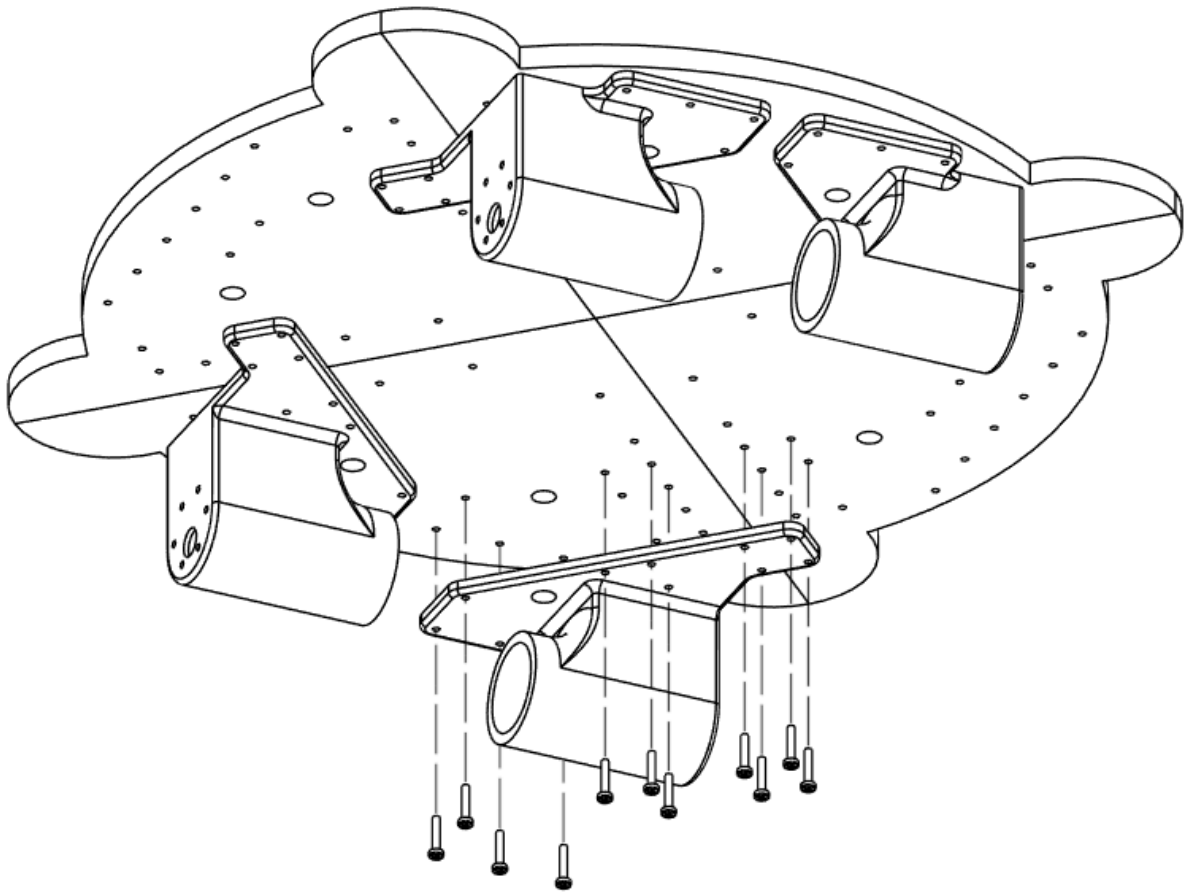
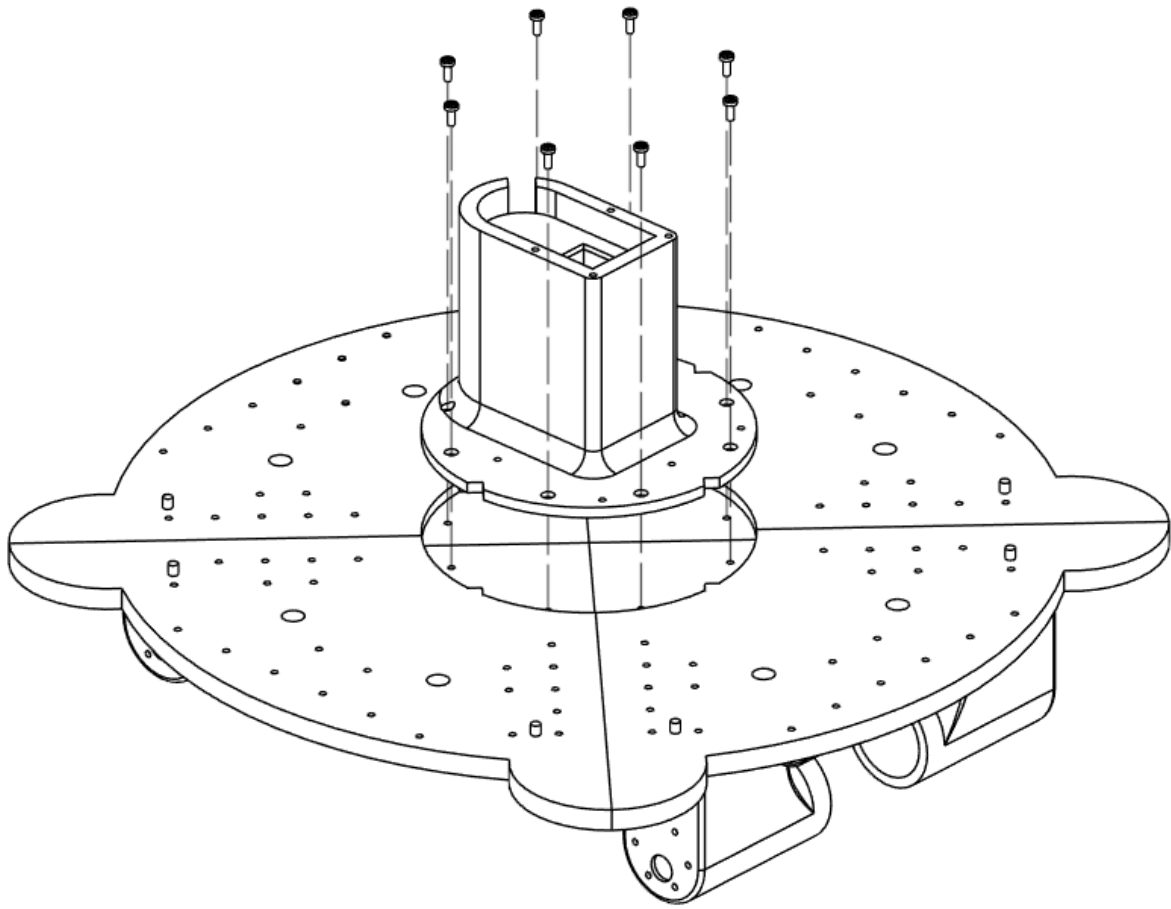
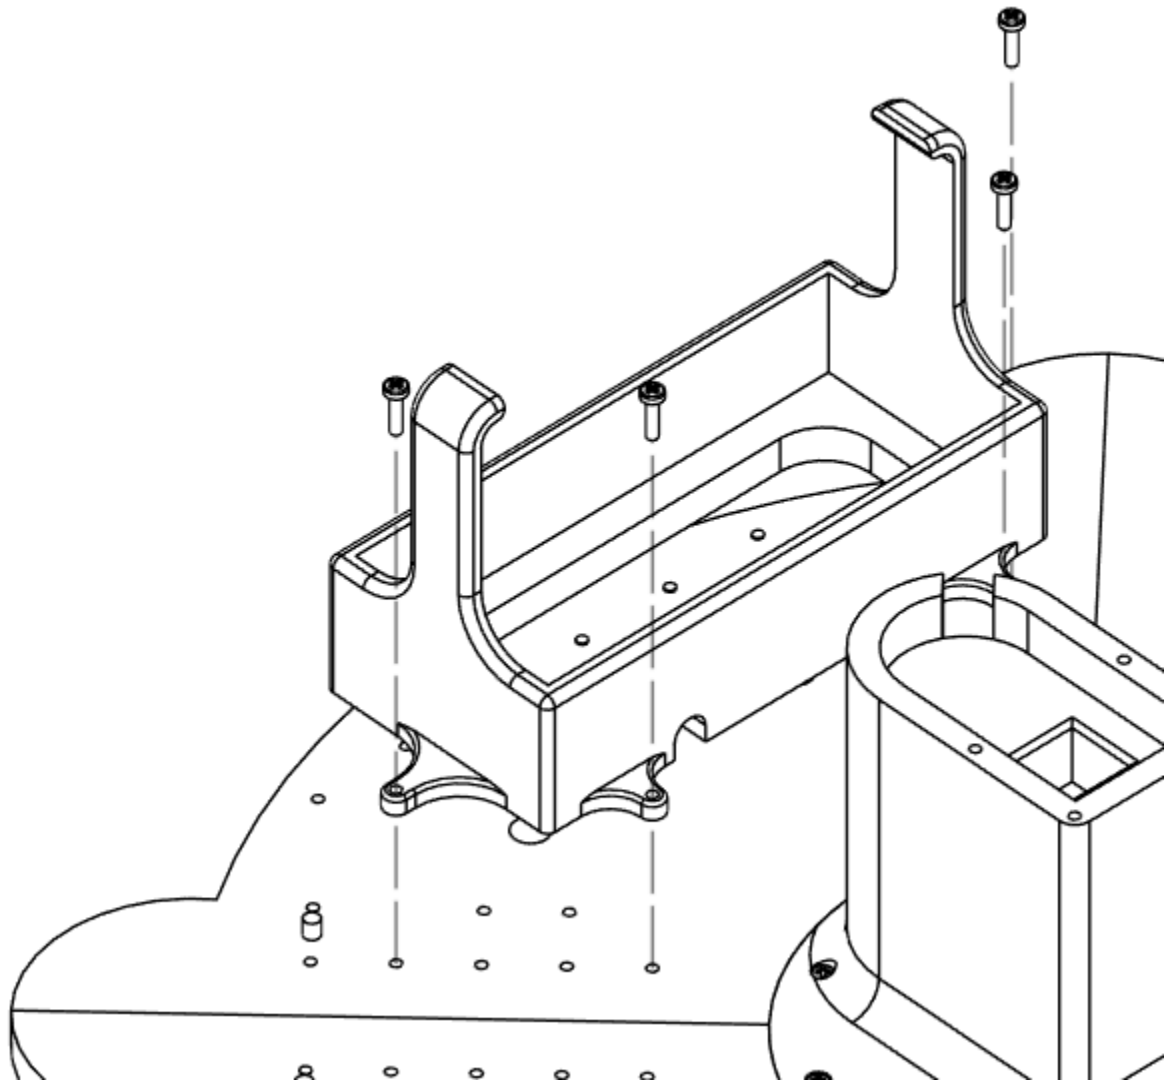
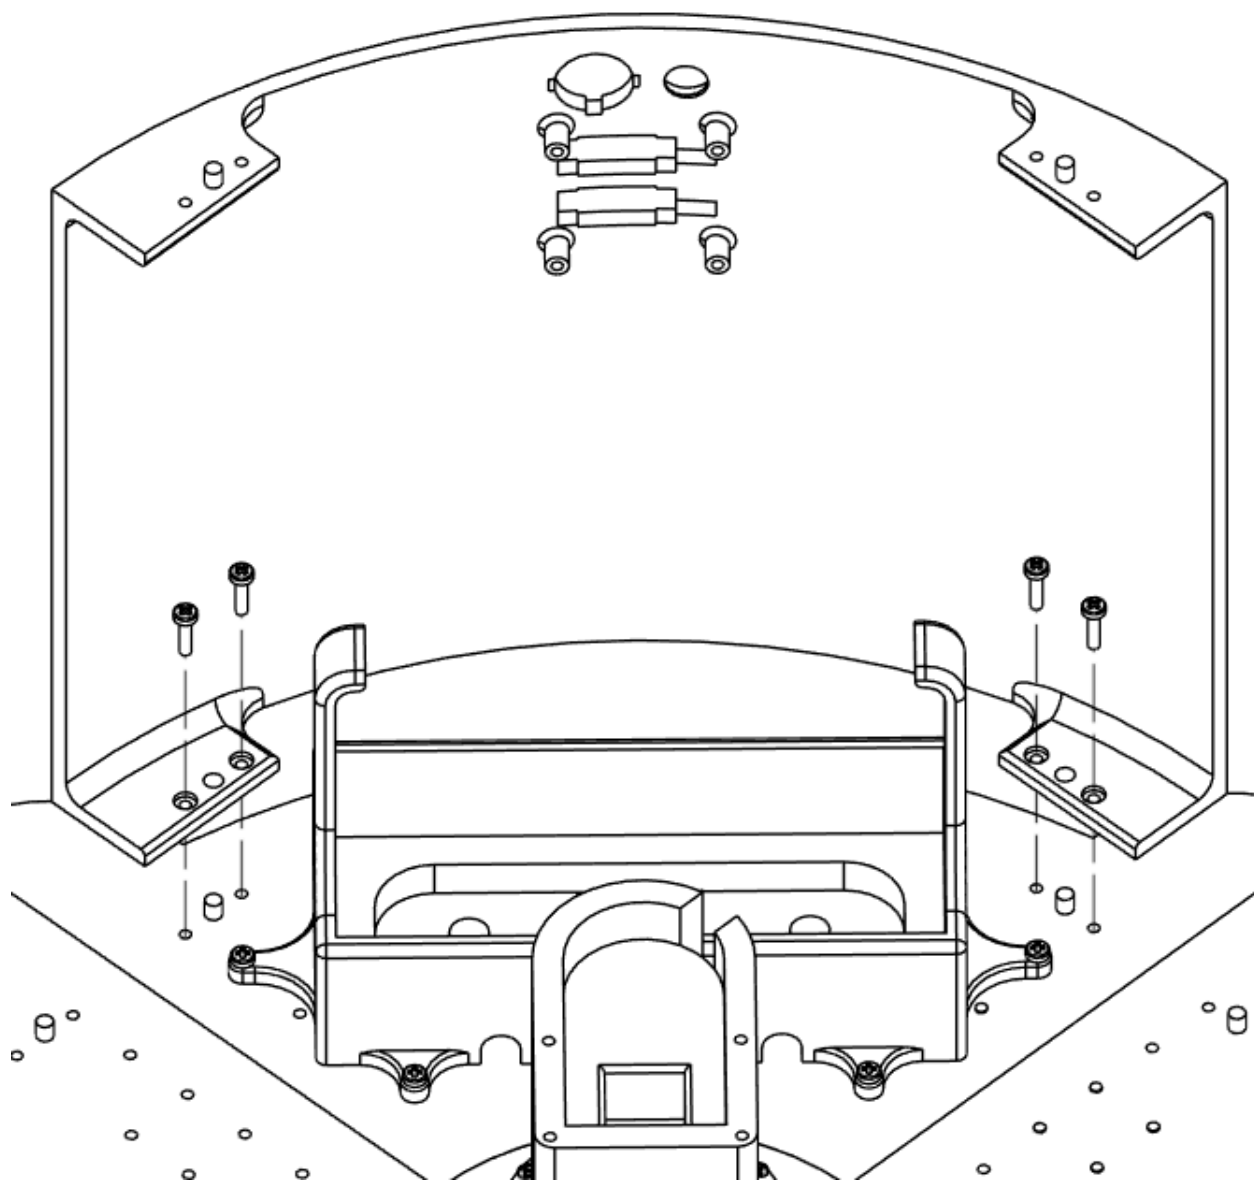

Figure 4.1 - Base Plate Undercarriage Assembly
Figure 4.2 - Linear Actuator Base Assembly
Figure 4.3 - Battery Holder Assembly
Figure 4.4 - First Level Rear Wall Assembly
- a. Fasten wheel motor housing assemblies to Level 1 Base Plates as shown in Figure 4.1
- i. (44) M3x16mm
- b. Fasten Linear Actuator Base to Level 1 Base Plates as shown in Figure 4.2
- i. (8) M3x8mm
- a. Fasten Battery Holder to rear Level 1 Base Plate as shown in Figure 4.3
- i. (4) M3x12mm
- b. Fasten Level 1 Rear Wall to rear Level 1 Base Plate as shown in Figure 4.4
- i. (4) M3x16mm